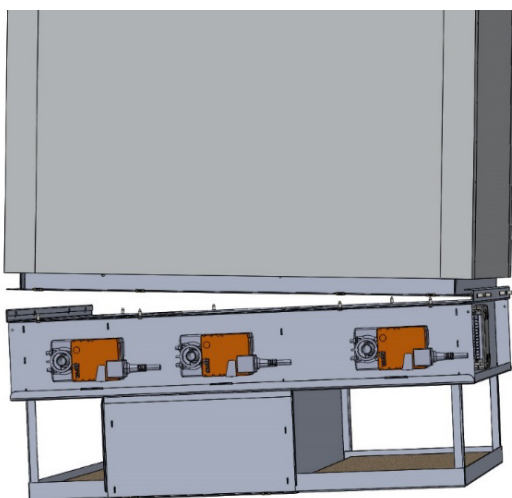

Figure 47 – Internal diffuser orientation.
1. Hook the internal diffuser on to one side of the heat exchanger housing *flat roof application* or extension piece *extended height/pitched roof application* ensuring the arrows are aligned – see figure 47 and 48.